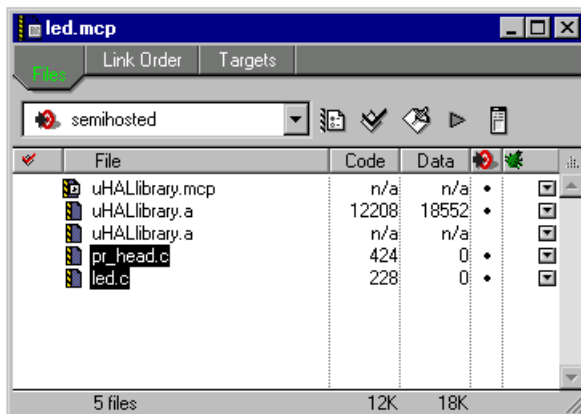

Figure 5-1 Delete existing source files from project
- c. Delete the existing source files from the project by selecting the files and pressing **Delete** (see Figure 5-1).